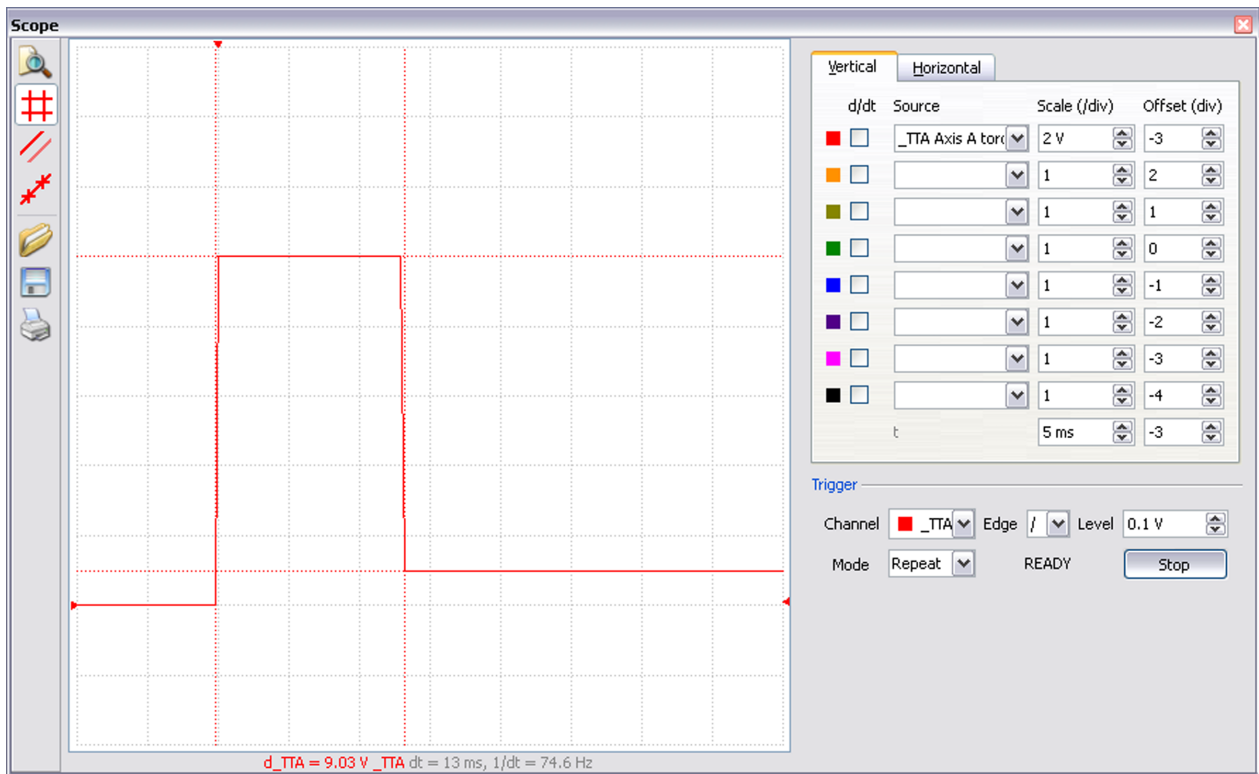

Figure A1.2: Peak Current Operation
Select the amplifier gain that is appropriate for the motor. The gain settings for the amplifier are identical for the brush and brushless operation. The amplifier gain command (AG) can be set to 0, 1, or 2 corresponding to 0.4, 0.7, and 1.0 A/V. In addition to the gain, peak and continuous torque limits can be set through TK and TL respectively. The TK and TL values are entered in volts on an axis by axis basis. The peak limit will set the maximum voltage that will be output from the controller to the amplifier. The continuous current will set what the maximum average current is over a one second interval. Figure A1.2 is indicative of the operation of the continuous and peak operation. In this figure, the continuous limit was configured for 2 volts, and the peak limit was configured for 10 volts.